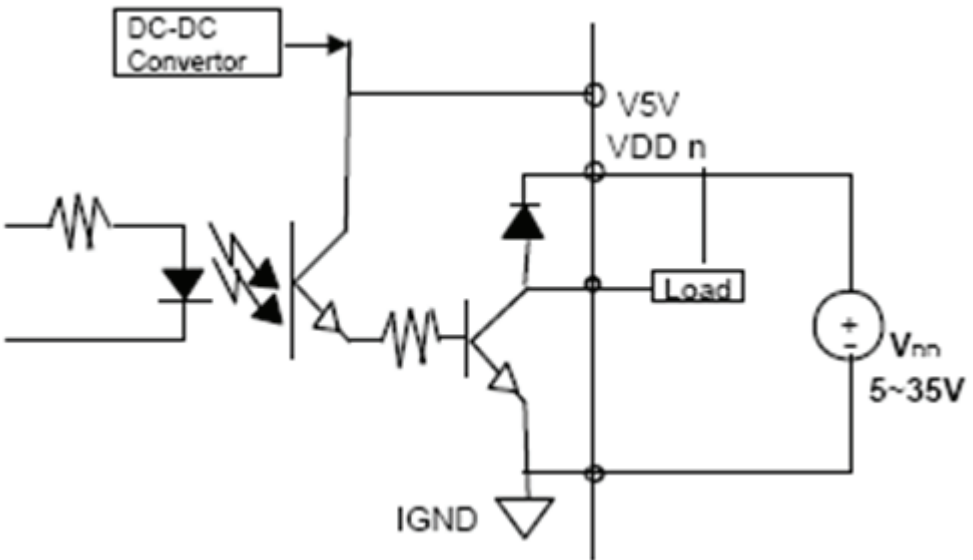

Figure 4-3: Common Ground Connection for Sink type Darlington ICs
2. Enable the WDTimer counter to count down through the function `_7452_INT_Control()`, this function allows WDT function in the CPLD (as Figure 4.3) starting to count down. After enabling the function, users must reload WDTimer by step (1) before it overflows. This makes cPCI-7452 work normally under WDT monitoring. When it overflows, CPLD interrupt will occurs.